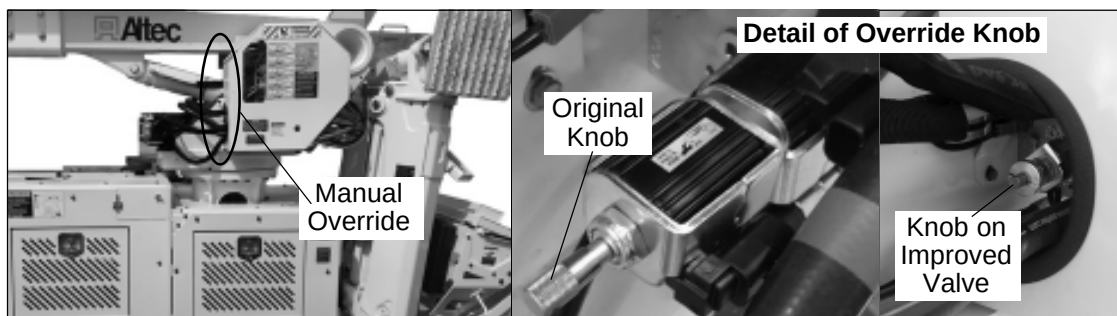

Figure 4 — Manual Override Location and Knob
- An improved manual override has been developed to be more reliable in operation. The manual override is located on the left side of the turntable valve cover. The original control has a gold-colored knob (refer to Figure 4). If a gold-colored knob is visible, order the Manual Override Kit, part number 990371943.